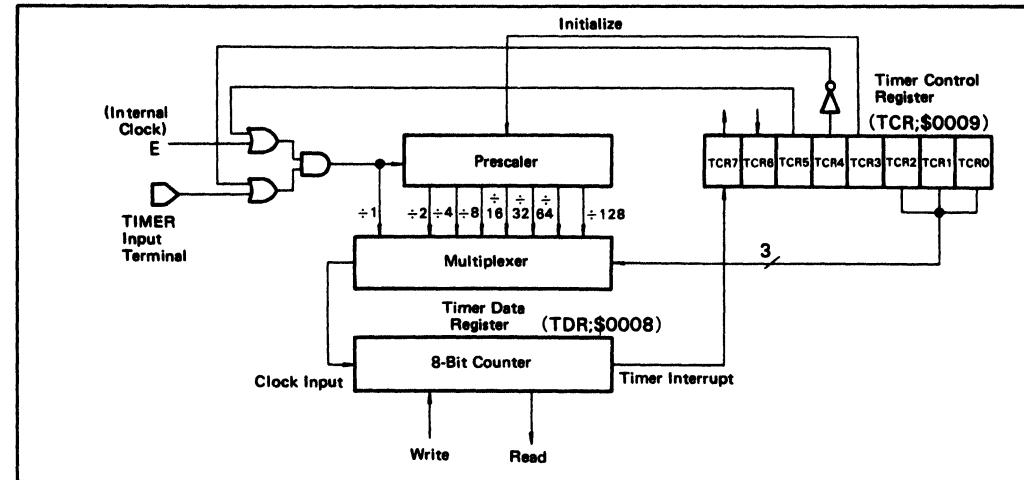

Fig. 2-4 Timer Block Diagram
Fig. 2-4 contains a block diagram of the timer. The 8-bit counter may be loaded under program control and is decremented towards zero by the clock input. When the counter, that is, the timer data register (TDR) reaches zero, the timer interrupt request bit (bit 7) of the timer control register is set. When recognizing the interrupt request, the MCU proceeds to store the current CPU state on the stack, and then fetches the timer vector address from locations \$1FF8 and \$1FF9 (or \$1FF6 and \$1FF7 if in the wait mode) in order to execute the interrupt service routine. The timer interrupt can be masked by setting the interrupt mask bit (bit 6) of the timer control register. The mask bit (I) of the condition code register can also disable the timer interrupt.